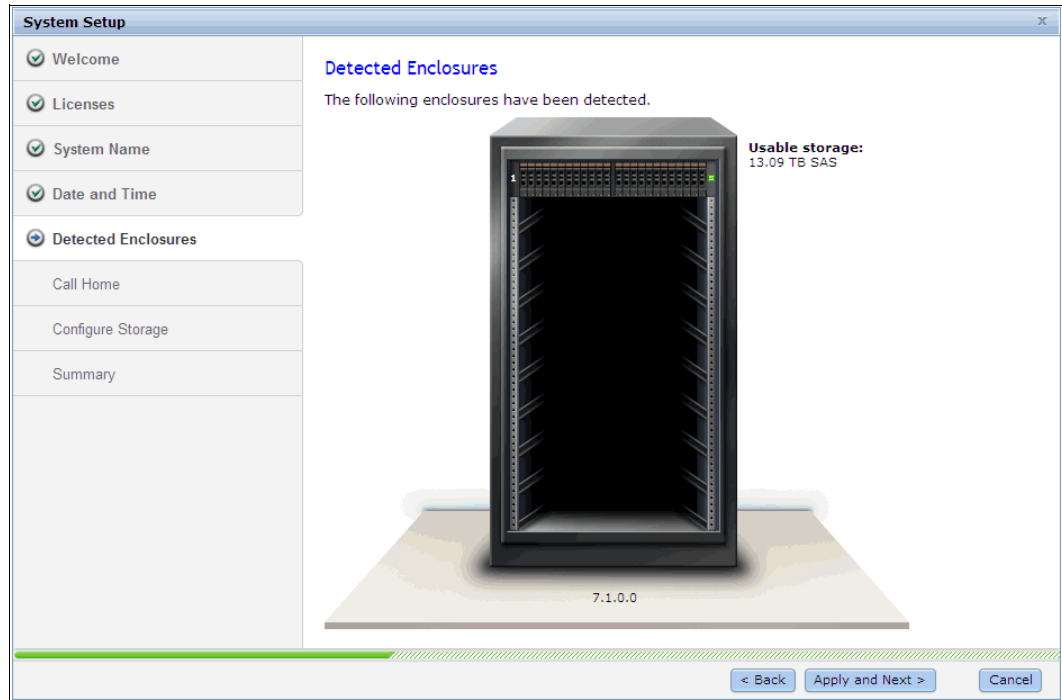

Figure 2-22 Setup wizard: Verify the detected hardware
4. The configuration wizard continues with the hardware configuration. Verify the hardware, as shown in Figure 2-22 on page 52.